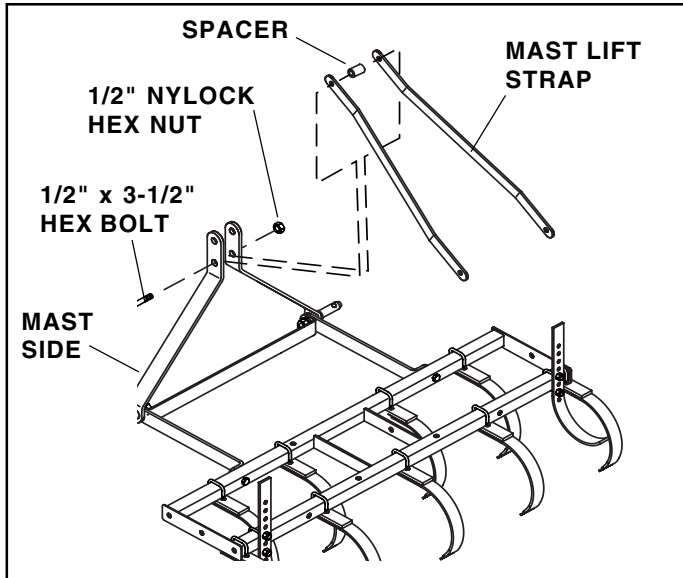

FIGURE 4
- Arrange the mast lift straps as shown in figure 4. Place the straps and the spacer between the mast sides, fastening them to the lower hole in the mast sides using a 1/2" x 3-1/2" hex bolt and 1/2" Nylock hex nut. **Do not tighten yet.**